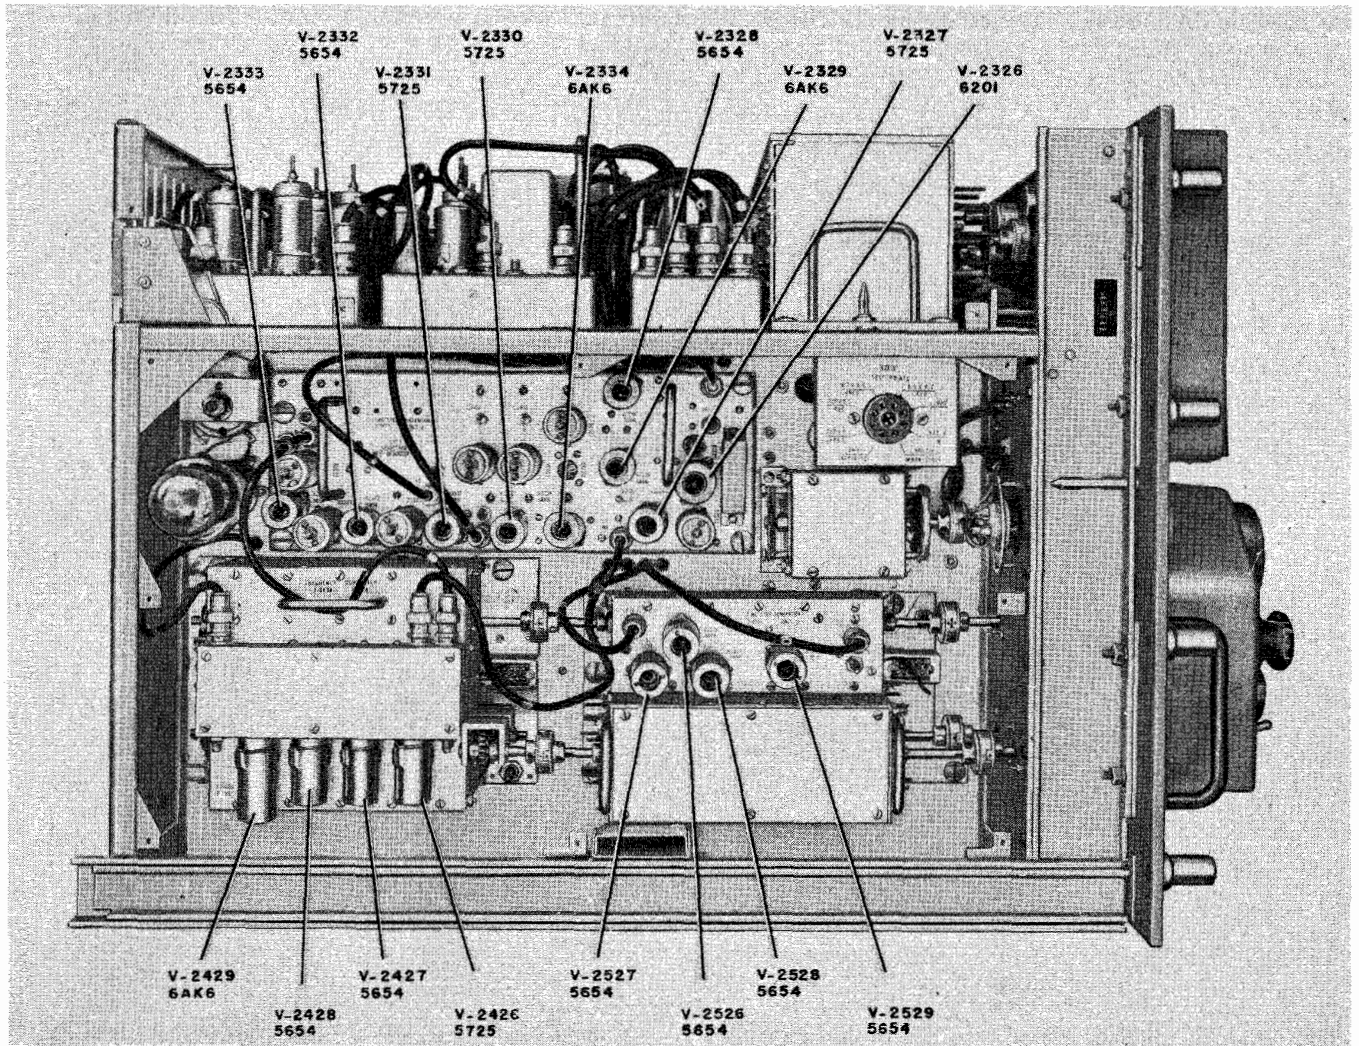

Figure 5-11. Radio Frequency Oscillator O-275/SRT (RFO), Left Side, Tube Locations
14.	Electron Frequency Converter Z-2330 (RFO—Unit 8). (See figure 5-11.)
15.	Electron Frequency Converter Z-2426 (RFO—Unit 9). (See figure 5-11.)
16.	Frequency Multiplier Z-2526 (RFO—Unit 10). (See figure 5-11.)